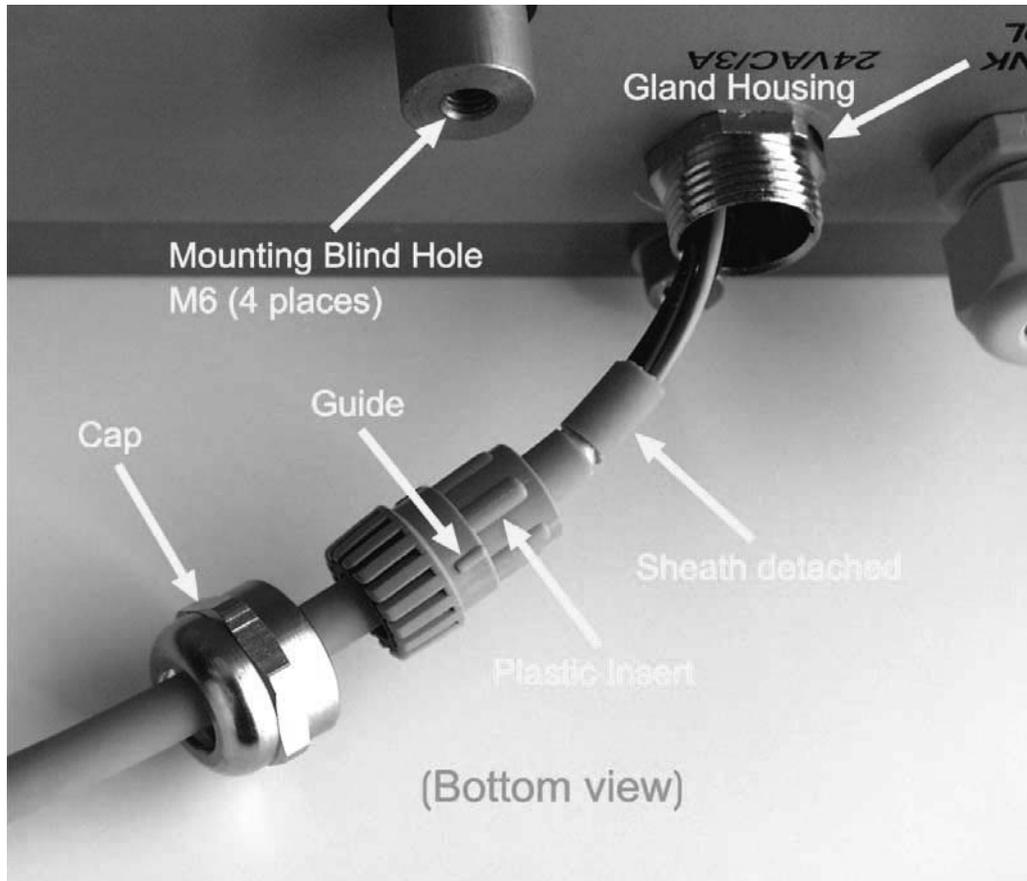

Fig.2-4 Power supply cable gland of the remote unit (bottom view).
Settle carefully the unit onto the console and align its four installation blind holes (M6 threaded – see fig.2-4) to the corresponding console holes.
e) Unscrew the metal cable-gland cap (marked “24VAC/3A” on the bottom panel (see fig.2-1,f) and thread it over the bared end of the four-core screened power-supply cable in such a direction as to be able to screw it onto the same place later. Take out the plastic insert from the cable gland housing. Thread the insert over the cable end in such a direction, that its split end be next to the metal cap, and the slender end – to the cable bared tag (see fig.2-4).